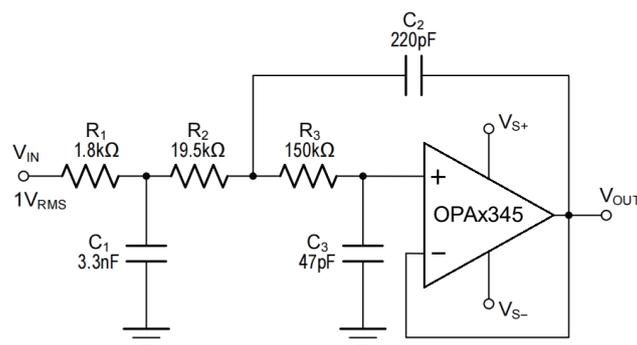

Figure 6. Configured as a Three-Pole, 20-kHz, Sallen- Key Filter
3. using a non-inverting filter topology, such as the Sallen-Key (shown in Figure 6).